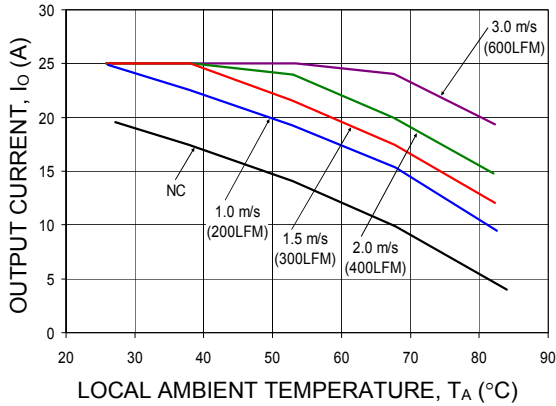

Figure 15. Output Current Derating for the Open Frame QSW025A0B in the Transverse Orientation; Airflow Direction from Vin(+) to Vin(-); Vin = 48V.
The use of Figures 15 - 24 are shown in the following example:
Determine required airflow (V) (Use Figure 15):